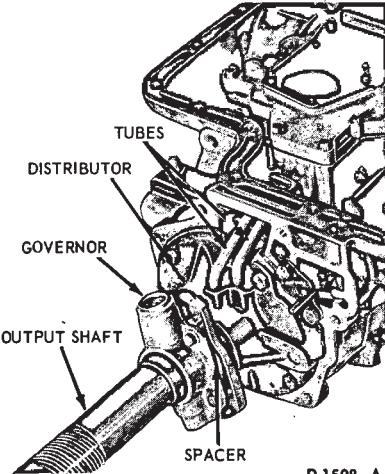

FIG. 16—Governor Installed
10. Remove the governor attaching bolts (Fig. 16) and remove the governor from the flange.
1. Secure the governor (Fig. 16) to the distributor flange with the attaching bolts. Torque the bolts to specification.